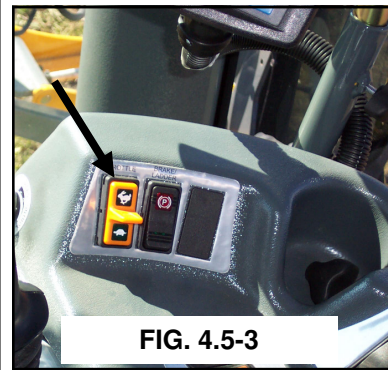

FIG. 4.5-3
**THROTTLE SWITCH**- The throttle switch (fig. 4.5-3) is used to control engine RPM. There are 2 settings that are controlled by the switch, high and low, with a RPM range of 800 to 2500.